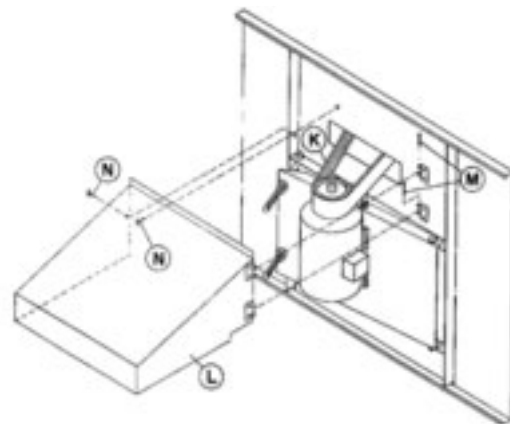

Figure 15 – Motor Guard and Powerband Belt Installation
7. Install Powerband belt **K** (Figure 15) around fan sheave and motor sheave. Tighten belt by adjusting nuts on "J" bolts. Do not over tighten the belts. The center of the belt should deflect approximately 3/4" with moderate hand pressure.
9. To install Motor Guard **L**, match up hinges and install hinge pins **M**. See Figure 15.
10. Close Motor Guard and install (2) wing bolts **N**.